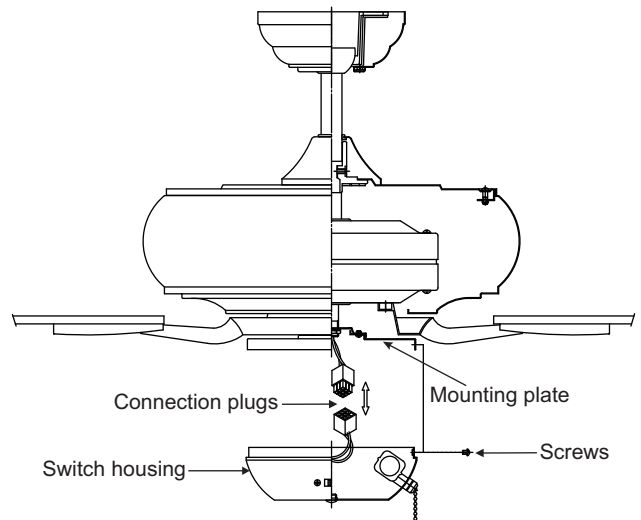

Figure 16
Step 2. While holding the switch housing under your fan, snap together the wire connection plug. (Fig. 16)
Step 3. Install the switch housing onto the mounting plate with 3 screws provided. Be sure to tighten all screws. (Fig. 16)